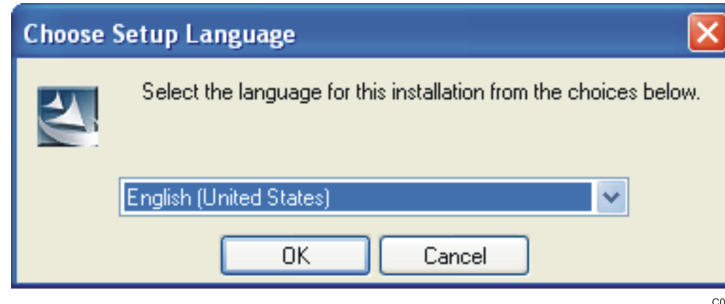

Figure 2. Choose Setup Language
1. Double-click on the *MCRInstaller.exe* file located on the TSW4100 installation CD. The Choose Setup Language (Figure 2) displays. Click OK for English (United States).